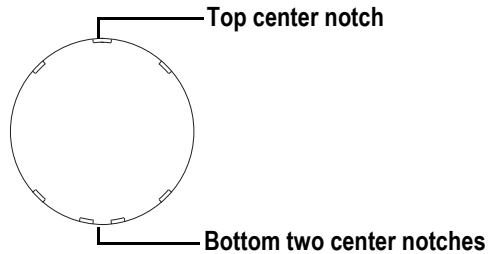

Figure 9
- Step 1: There are seven notches cut into the stippled side of the lens. Position the lens so the cluster of three notches is on top. The center notch of the cluster aligns with the spring clip on the lens retainer ring. See Figure 9.